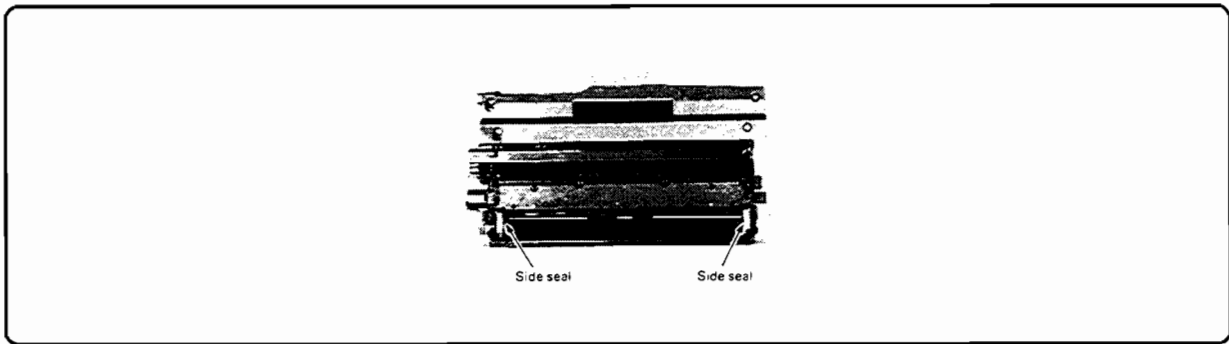

Figure 6-67. Developer Side/Inner Seal Removal
11. Remove the front and rear side seals from the developer frame (Figure 6-67).